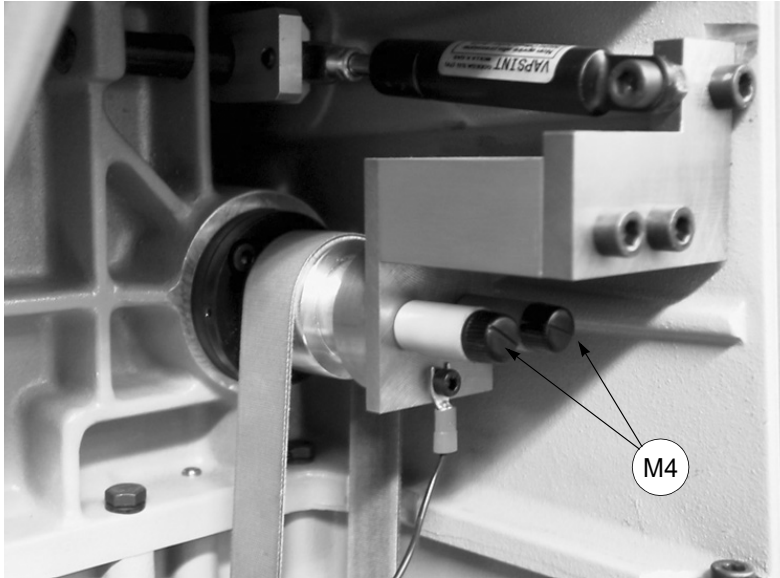

Fig. 153
- 3) install the (Z14) template (fig. 153).
- 2) unscrew the two brush caps (M4) (fig. 153), remove and fit two new brushes.